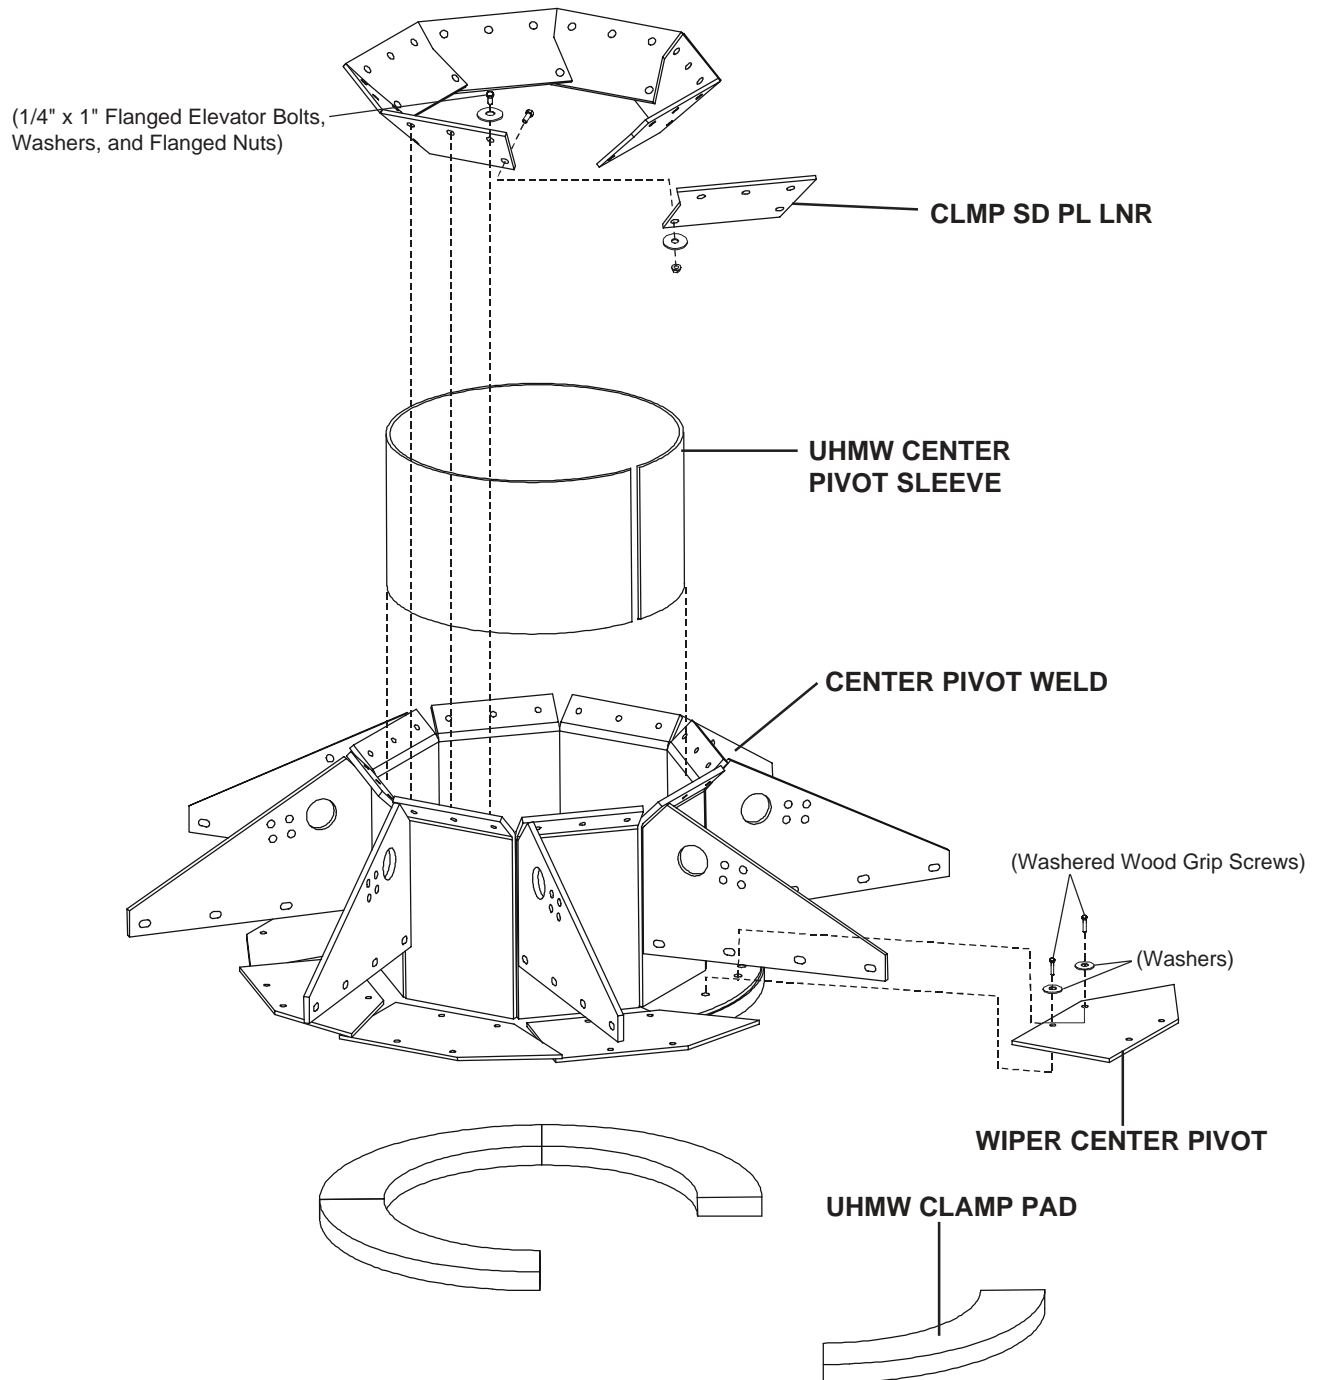

Fig. 9-2
3. Find the four sections which make up the white **UHMW CLAMP PADS** and place them on the Screen Deck Ring. Hoist the **CENTER PIVOT WELDMENT** and place it over the Upper Bypass Tube and on top of the UHMW Clamp Pads. Using washered wood grip screws with a 3/8" washer, fasten the **WIPER CENTER PIVOT** in place around the Center Pivot, driving them into the Clamp Pads. (See Fig. 9-2)
4. The white **UHMW CENTER PIVOT SLEEVE** is now inserted between the Pivot Weldment and the Upper Bypass Tube. Slide the Pivot Sleeve down until the top is flush with the Bypass Tube. Install the blue urethane **CLMP SD PL LNRs** on the inner Center Pivot face to contain the Pivot Sleeve. Installing the Liners in a clockwise progression will provide the proper lap with respect to rotation direction. Use Fanged Elevator Bolts, 1/4" x 1" long and Flanged Nuts, adding a washer on the nut side where the urethane overlaps. (See Fig. 9-2)